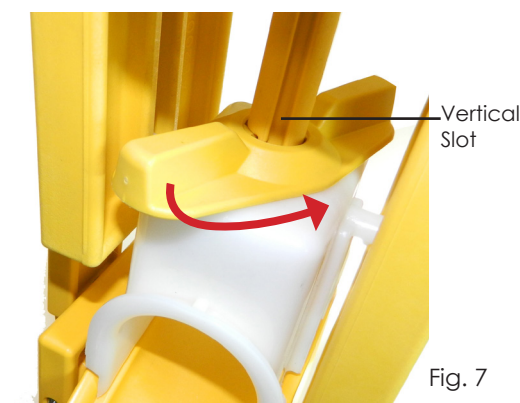

Fig. 7
- (2) While holding down, turn Lock Nut counter-clockwise to align with vertical slot. Spring will drive capture upward. (Fig. 7)